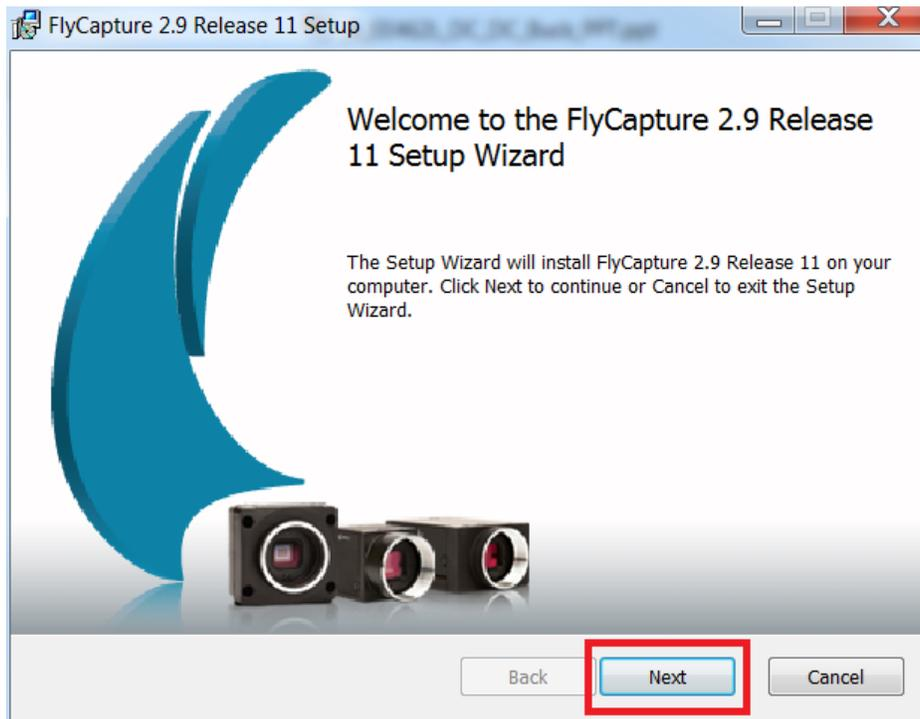

Figure 2-3. FlyCapture2 Installation
3. After extraction of the installation components, the installer will begin with a welcome page as shown in Figure 2-3. Click the "Next" button to continue.